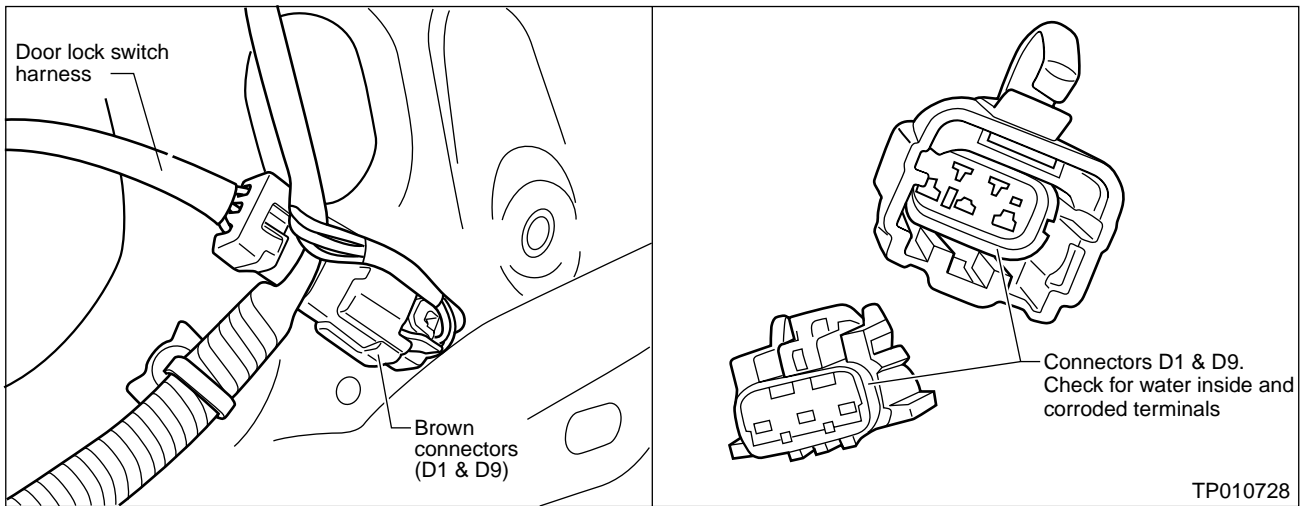

Figure 1
2. Inspect the brown connector for the door lock switch harness (D1,D9) for any evidence of moisture (water condensation, droplets) and/or corrosion (see Figure 1).
9. Apply dielectric grease to the brown connector for the new door lock switch harness (see Figure 1).